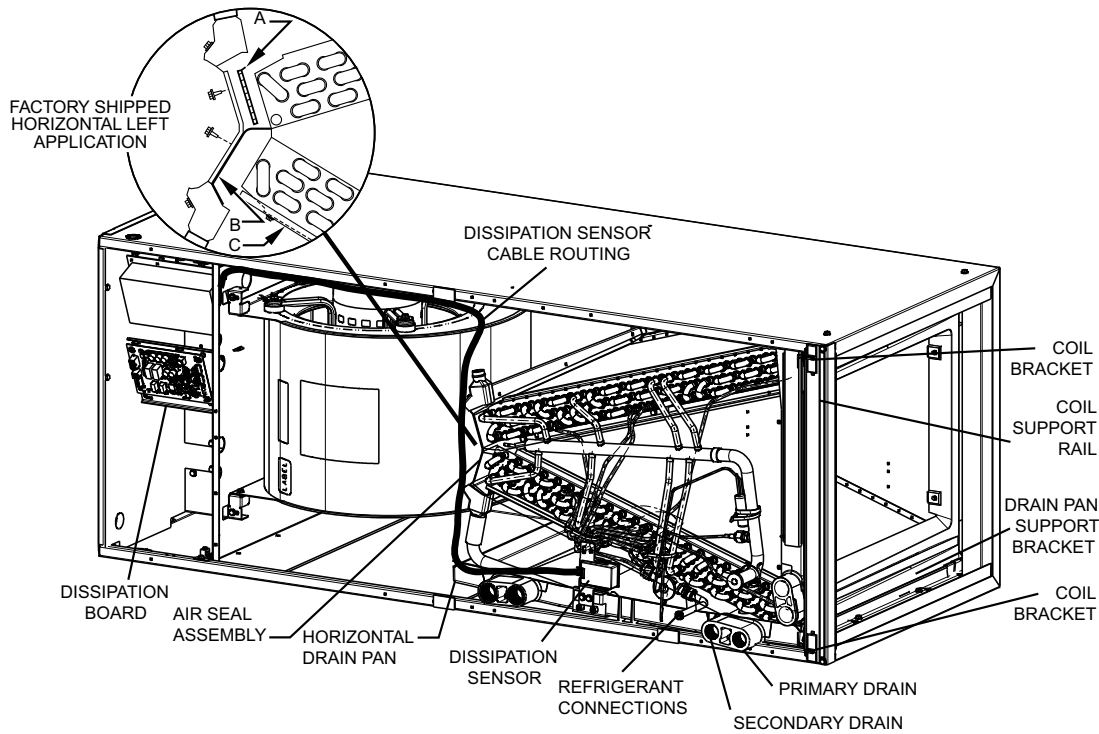

Fig. 5 – A-Coil in Horizontal-Left Application (Factory Ready)
2. When suspending unit from ceiling dimples in casing indicate proper location of screws for mounting metal support straps (see Fig. 5).